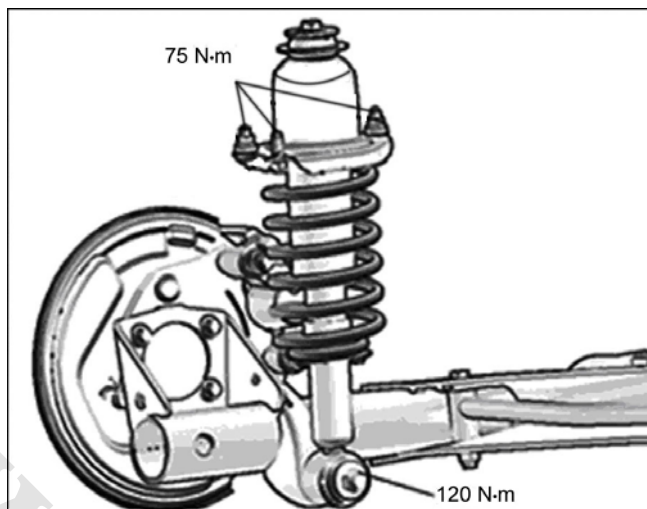

Fig. 2-22
2) Dismantle the left and right rear shock damper assembly according to Fig. 2-22.